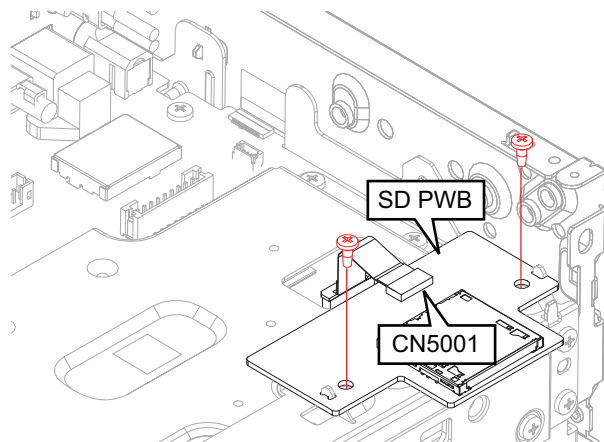
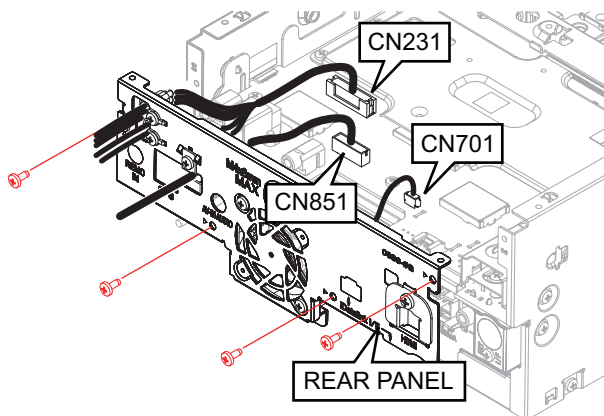

Fig.14
Fig.15
- (7) Disconnect the FFC from connector.
- (8) Remove the 2 screws, and remove the SD PWB. (See Fig.14)
3.1.6 Removing the DIGITAL IO PWB (See Fig.15 to 18)
- (9) Disconnect the wire harness from connectors.
- (10) Remove the 4 screws, and remove the REAR PANEL. (See Fig.14)